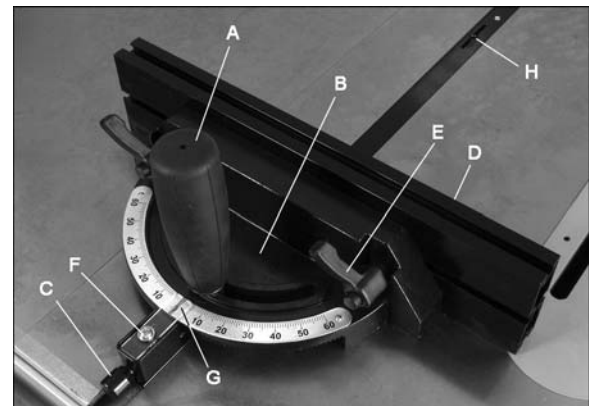

Figure 17
Refer to Figures 17 and 18.
2. Loosen lock handle (A, Figure 17) by turning counterclockwise.
3. Pull out spring-loaded knob (C) and rotate knob until body (B) of miter gauge is at desired angle as indicated on scale.
4. Tighten lock handle (A).
The extension plate (D, Figure 17) can be adjusted by sliding to the right or left or removed entirely.
NOTE: The bar of the miter gauge has two slots with *set screws* (H, Figure 17). Adjust these set